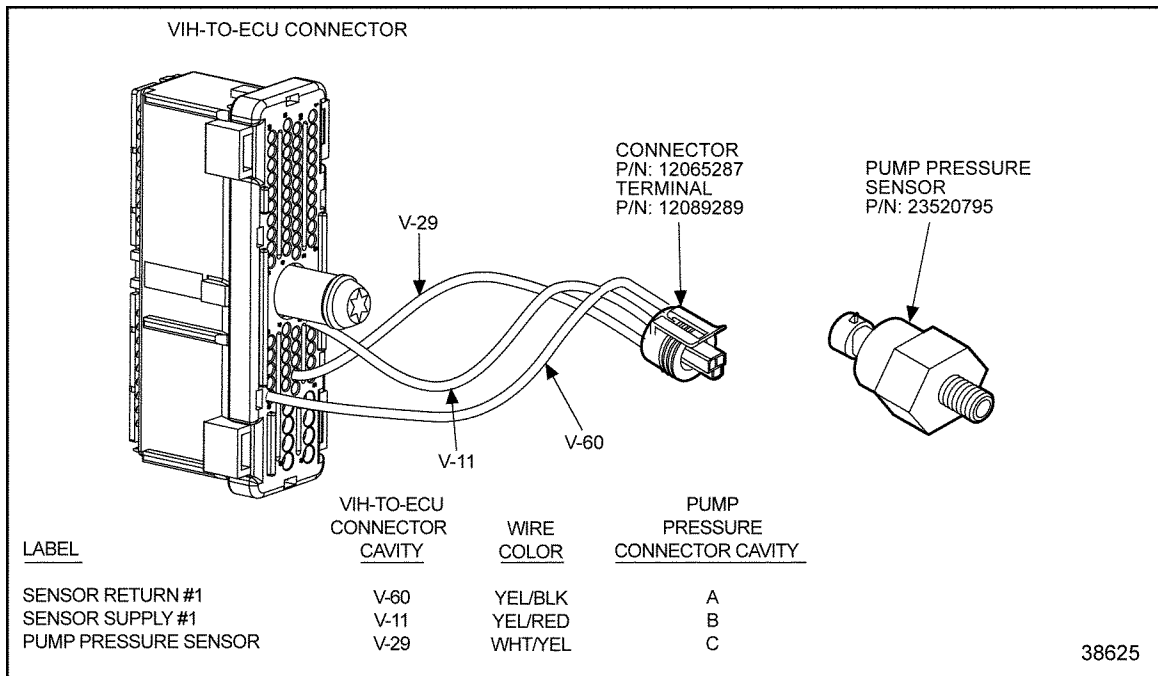

Figure 74-2 Pump Pressure Sensor
4. Disconnect the pump pressure sensor connector and install a jumper between sockets B and C of the pump pressure sensor transducer connector. See Figure 74-2.